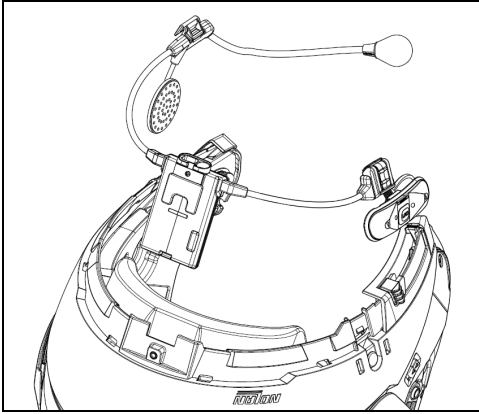

Fig. 4
- Place the system in the special housing in the back of the helmet, pushing it all the way into the groove (Fig. 4).